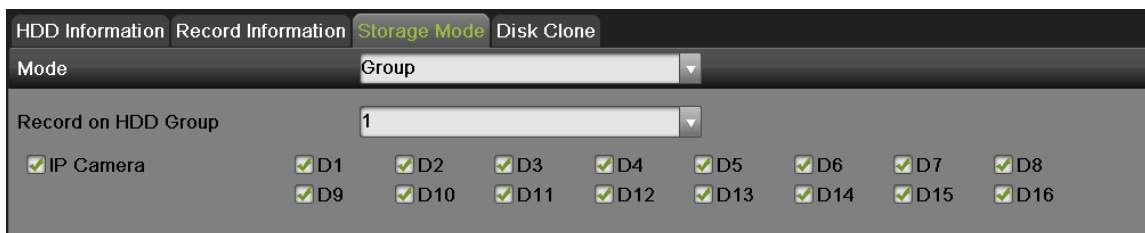

Figure 155 Group Mode Settings Menu
2. Select the Storage Mode tab, as shown in Figure 155.